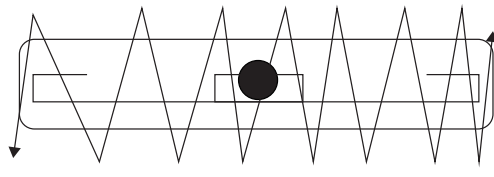

Figure 5 – Smooth tag to bond adhesive to surface
- Smooth the tag to ensure complete adhesion and remove any air pockets. The tag is ready for immediate use (Figure 5).